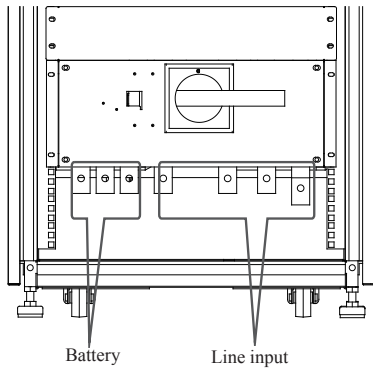

Fig. 5-10
- 2) Connect the line input and battery wires to the corresponding copper bars through the wire cushion rubbers on the rodent-resistant board according to the marks (the copper bar marks are shown as Fig. 5-10).